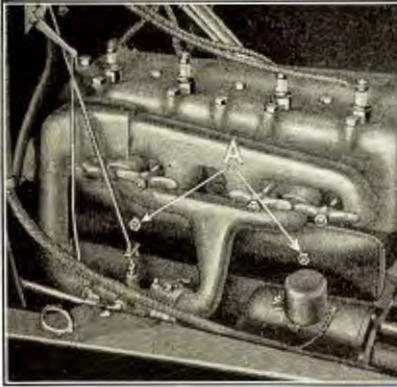

Fig. 217
- 363 Remove cylinder valve cover and gasket by running off the two cylinder valve cover stud nuts (See "A" Fig. 217).
- 377** Replace cylinder valve cover and gasket by positioning gasket and cover on the two cylinder valve cover studs and running down the two nuts over ends of studs (See "A" Fig. 217). Before installing gasket make sure it is in first-class condition.